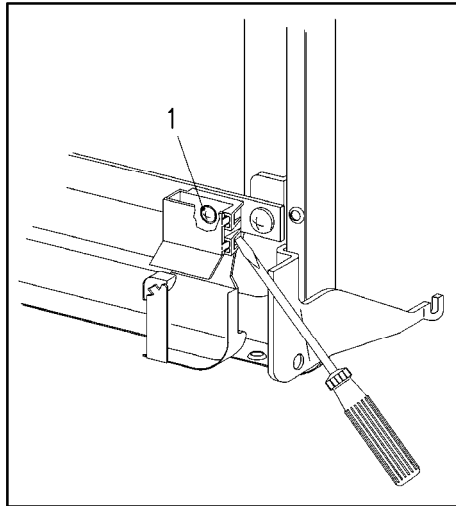

Figure 5-14: Cable Holder Removal
Refer to figure 5-14.
3. Remove the Raised Head Screw (Figure 5-14 – Item 1).